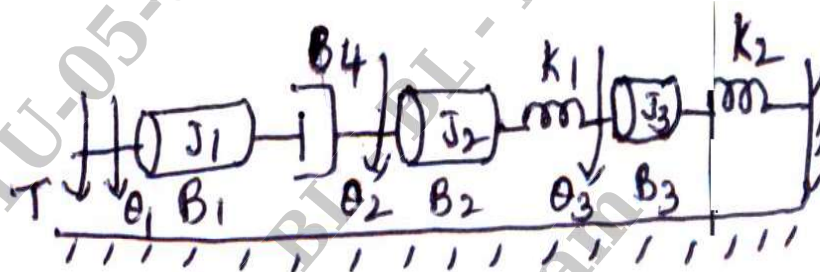

Fig. Q. 1(b)
- b. For the mechanical systems shown in fig. Q. 1 (b). Draw the electrical equivalent network based on torque – voltage analogy.